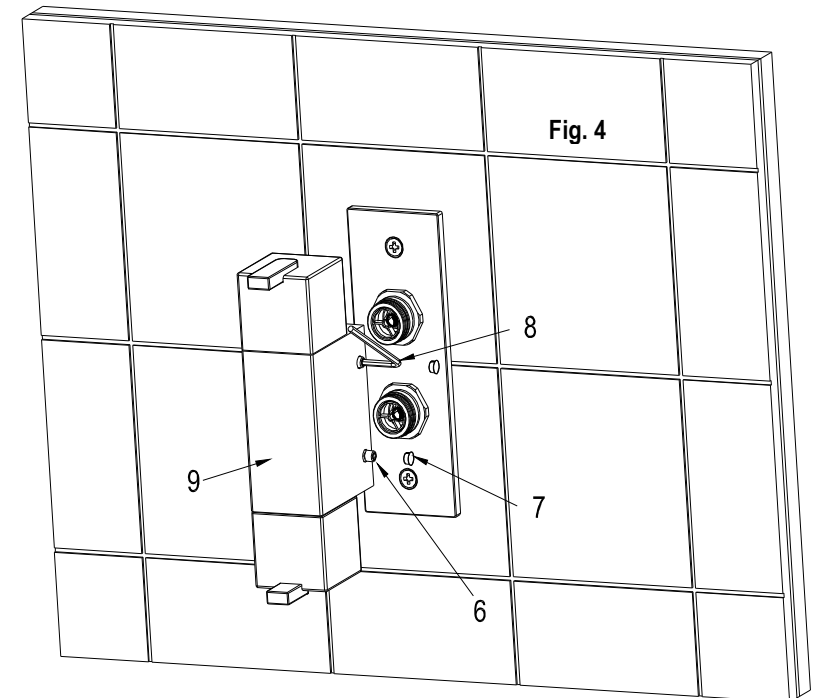

Fig. 4
4.10 Push shower body (9) onto backplate (outlet pointing downwards) and secure using grub screws (6) and hexagon key (8) as shown in Fig. 4. Cover grub screws with chrome caps (7).
4.17 Push shower body (8) onto backplate (outlet pointing downwards) and secure using grub screws (7) and hexagon key (6) as shown in Fig. 4.